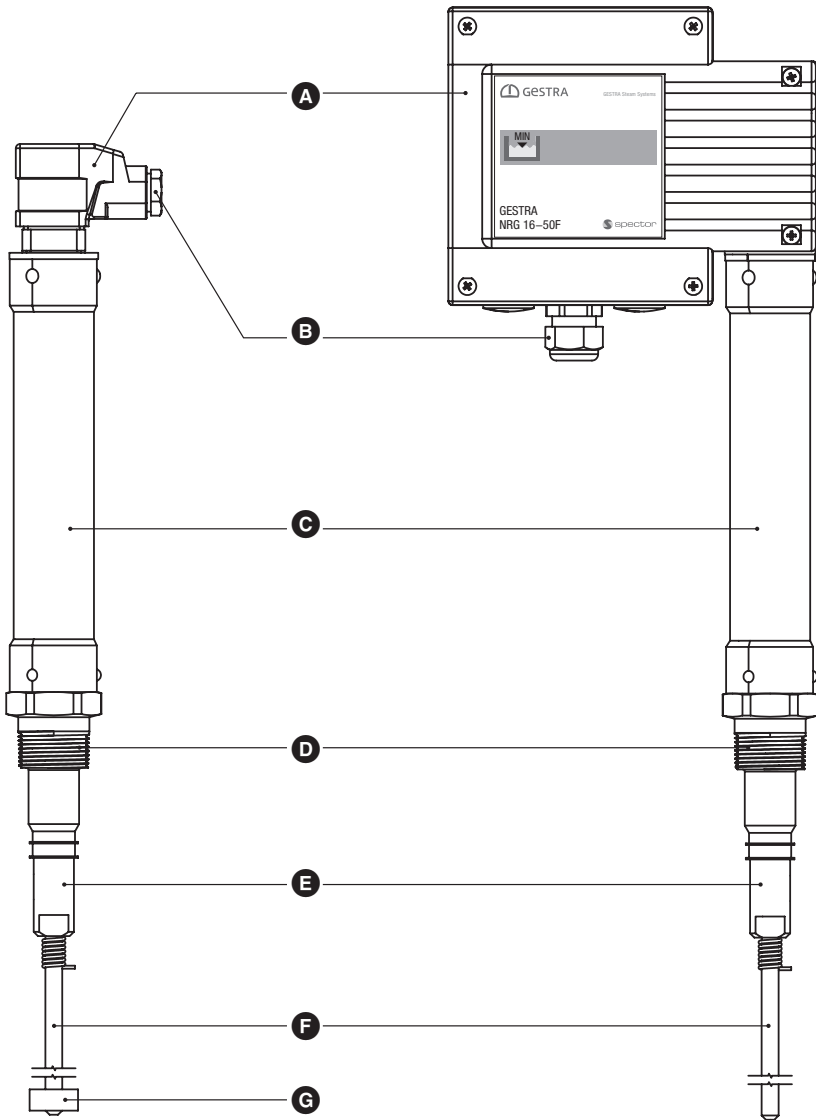

Fig. 3
- Do **not** install the upper part of the cover tube  of the level electrode (see **Fig. 3**) in the boiler's thermal insulation!